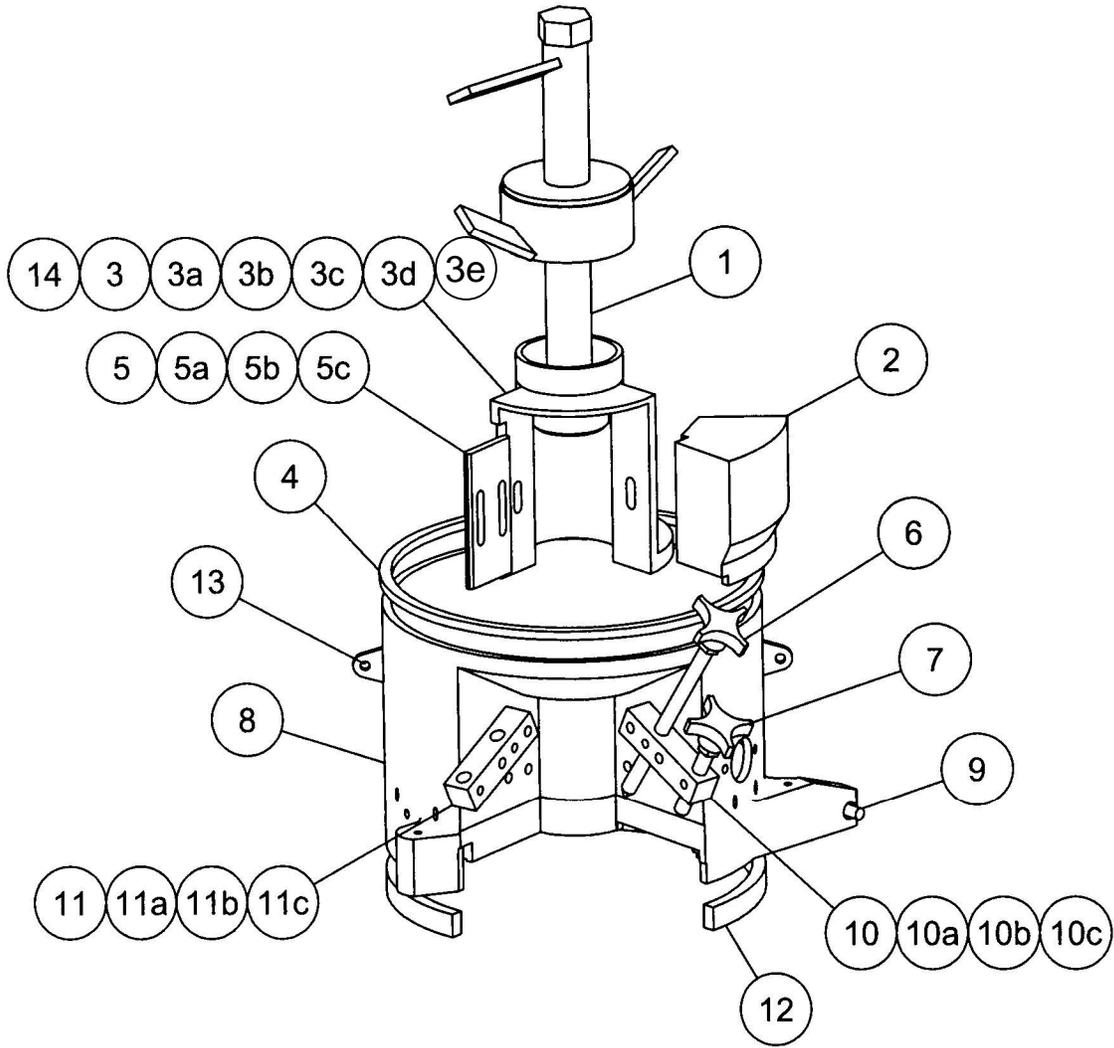

FIGURE 33
Step 3: See Hopper Base Assembly, Figure 33, to choose a 3" agitator shaft or stub.